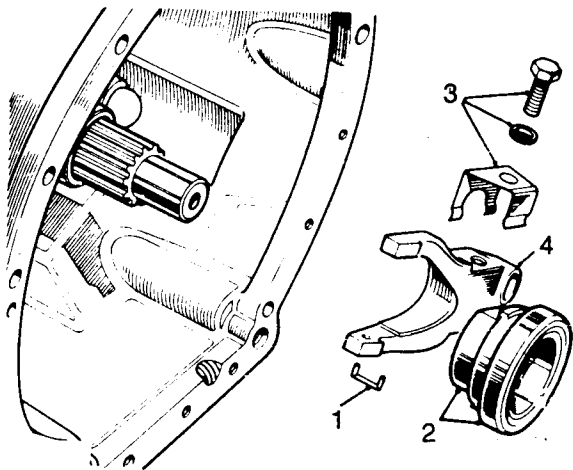

Fig H3.8
- (2) Refer to Fig H3.8. Withdraw the retainer staple (1).
- (3) Withdraw the bearing and sleeve (2). If required, press the bearing off the sleeve.
- (4) Remove the spring clip (3) and fixings.
- (5) Withdraw the release lever (4).